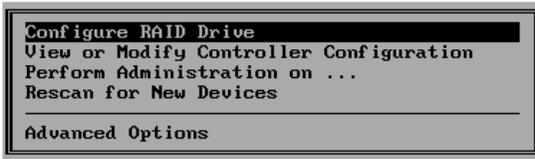

Figure 1-31. Select “Configure a RAID Drive”
Once you've selected the controller on which you want to create a RAID configuration, the RAID EzAssist main menu is displayed (Figure 1-31):
**From the main menu, press Enter with Configure a RAID Drive selected (Figure 1-31).**